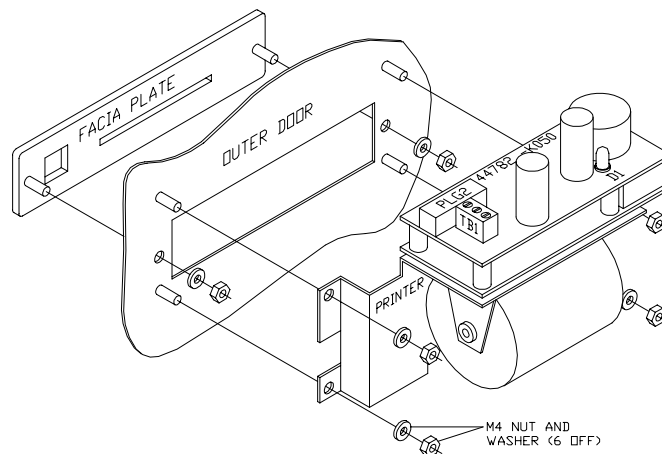

Figure 38: Printer Installation
3. Install the VR0053 printer assembly as shown in Figure 38 using the fixings provided: